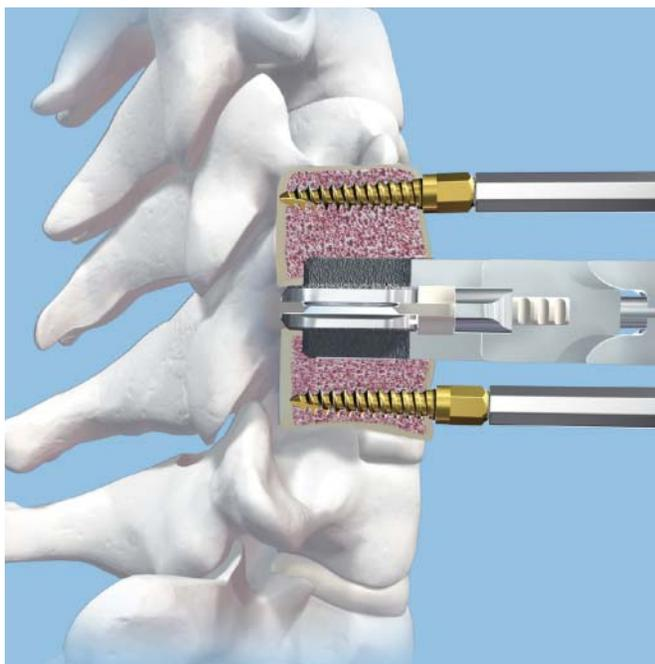

Figure 33
- Align the keels of the ProDisc-C implant with the keel channels. Ensure the “UP” sides of the inserter and implant are oriented cranially. Under lateral fluoroscopic control, advance the ProDisc-C implant to the posterior margin of the vertebral bodies (Figure 33).